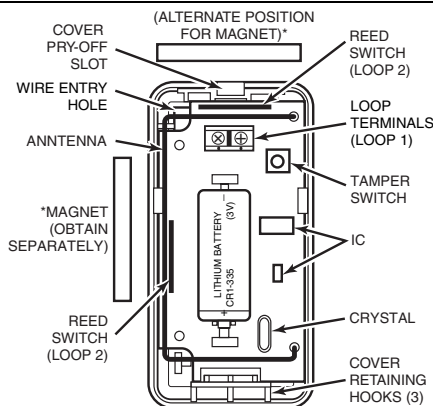

Figure 2. 5815 (shown without cover)
The description that follows assumes that the unit will be mounted as shown in the diagrams, with the magnet (if used) located in one of the positions shown in Figure 2. The unit may, however, be installed in any direction, as long as the relationship of the unit to its mounting plate and (if used) magnet is maintained.
Note: If a wired contact loop is to be used, with concealed wiring, the wire exit hole in the wall must be located under the wire entry hole in the case as shown in Figure 2, and no more than 1/4" in diameter.
6. If a reed switch is to be used, mount a No. 5899 Magnet (obtained separately) adjacent to the reed switch, or adjacent to the top of the case (see Figure 2). In either case, the magnet must be mounted within one-half inch of the reed switch.
With the battery still not inserted, connect the contact loop wires to the unit's loop terminals (see Figure 2).
2. **Observe correct polarity and insert the battery** provided into the battery holder (see Fig. 2). *Take care not to bend the antenna.*